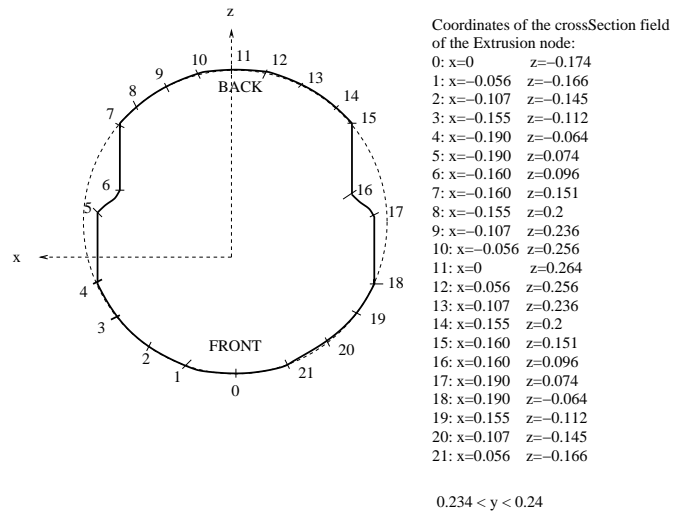

Figure 3.19: Top plate of the Pioneer 2™ robot
2. for the top plate: a `Shape` node with a geometry `Extrusion`. See figure 3.19 for the coordinates of the `Extrusion`.